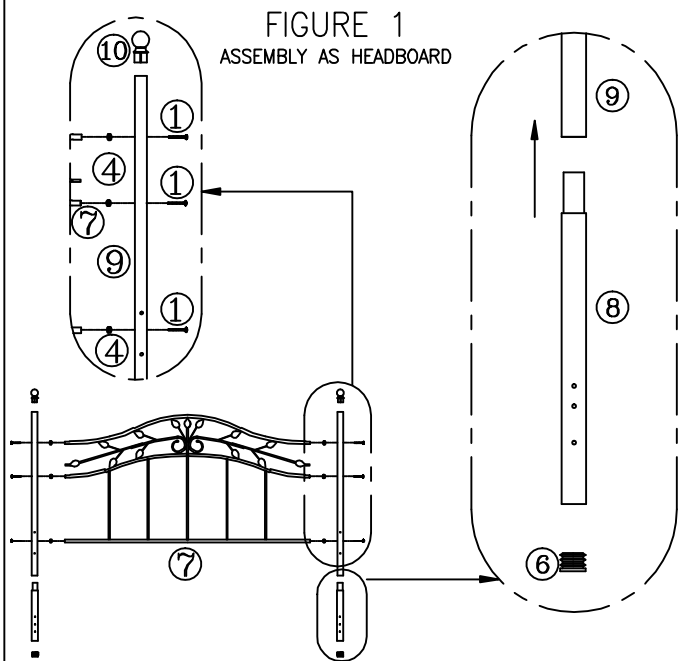

FIGURE 1
- Align grill (7) rail ends with holes in post (9). See Figure 1
- Secure post (9) to grill (7) with screws (1) and metal caps (4). See Figure 1
- Align top reduction of extension legs (8) with bottom of headboard posts. (See Figure 1) Make sure the 3 holes on extension legs are perpendicular to headboard panel.
- Now carefully insert extension legs (8) into bottom of panel posts (9).
- Insert plastic glides (6) into legs (8). See Figure 1
- Push in finials (10) on top of posts (9).
- Discard leg extensions (8) for footboard attachment to frame.
- Insert plastic glides (6) into post (9). See Figure 1